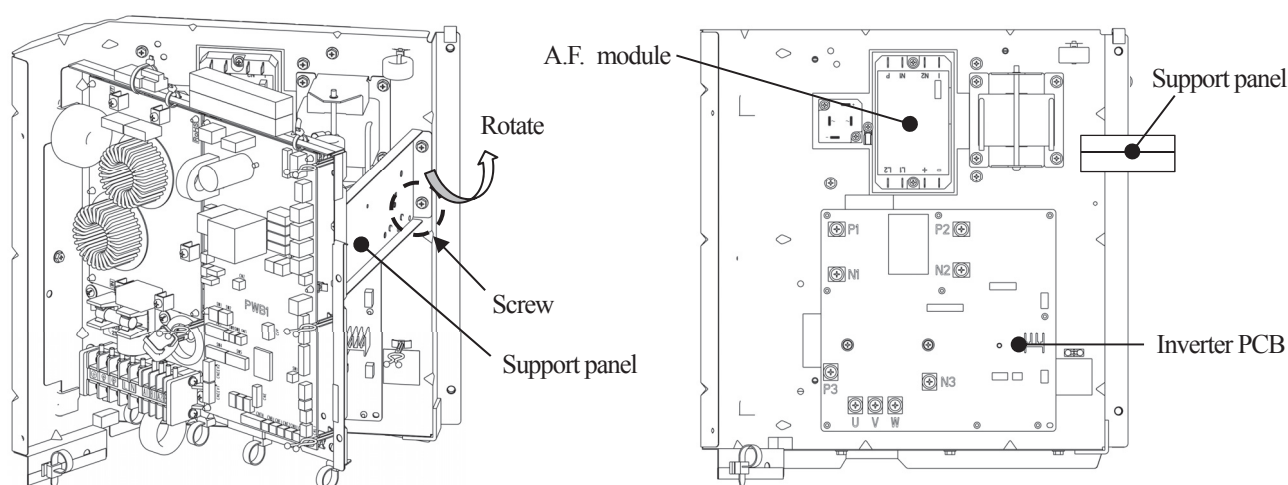

Fig.5 Inverter side view of controller
- 2.1 Remove the screw from support panel and rotate the support panel to counterclockwise direction as shown in Fig.5.